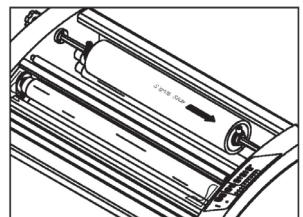

Figure 12
6. Carefully return the film shaft back into place. (Fig. 12)